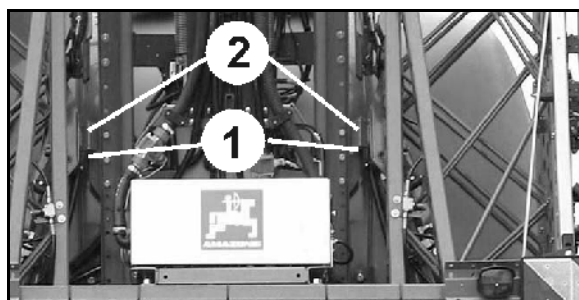

Fig. 66
2. Entirely lower the sprayer booms the height adjustment, until the latches (Fig. 66 /1) release the location pockets (Fig. 66 /2).
Fig. 66 shows the locked sprayer booms.
Align the sprayer booms for the tilt adjustment if the latches (Fig. 66 /1) do not retain the location pockets (Fig. 66 /2).